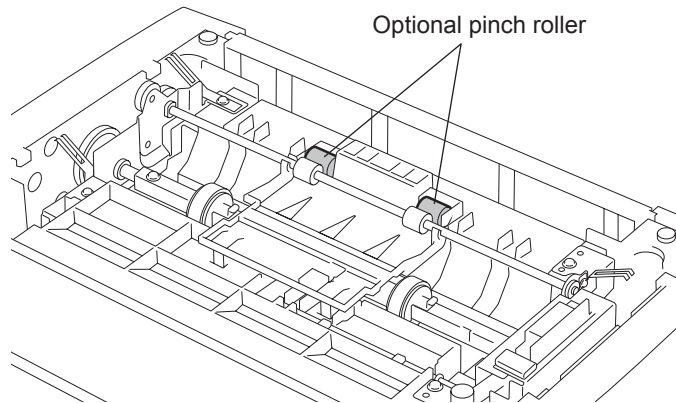

Fig. 10-19
- 12) Optional pinch roller (P.10-13 "Fig. 10-19")